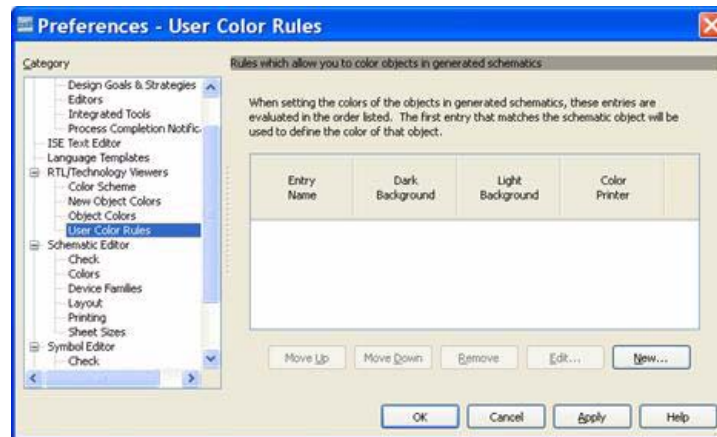

Figure 7-8: Preferences Dialog Box
2. Under the **RTL/Technology Viewers** category, select the **User Color Rules** sub-category as shown in Figure 7-8. This is where we can define specific color rules for our needs.